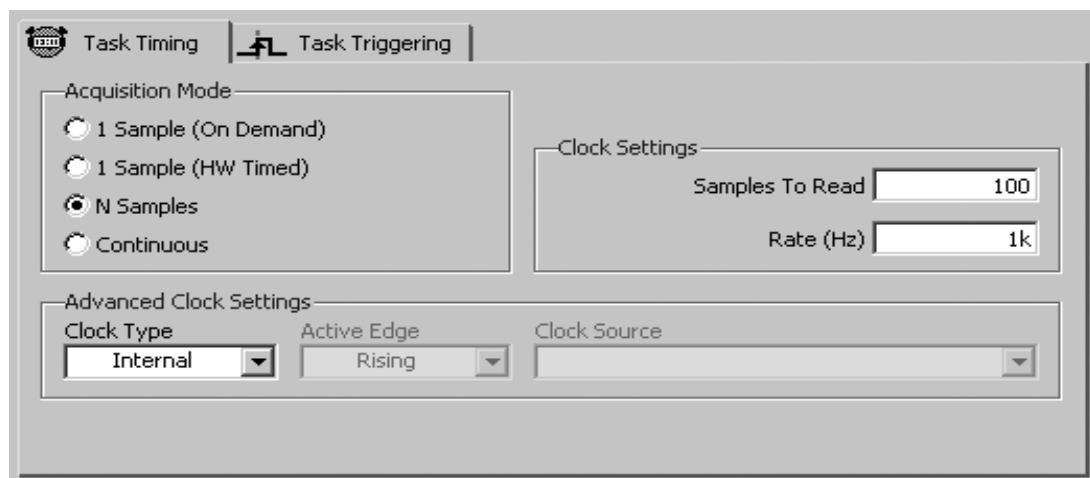

Figure 11.14
5. On the **Task Timing** tab, select an **Acquisition Mode** of **N Samples**. This will configure your task to return multiple measurement values for each channel. On the same tab, select the **Samples To Read** and **Rate (Hz)**. This will determine how many data points are acquired and the rate they are acquired, each time we call the DAQ Assistant VI (see Figure 11.14).